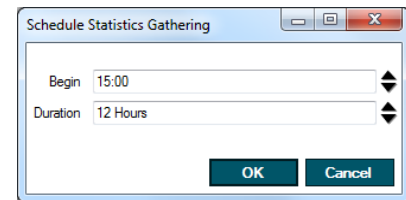

Figure 77 - "Schedule Statistics Gathering" window
**“Schedule” button:** Click this button to schedule a time at which statistics will be gathered. When clicked, a new window will open prompting for a begin time and duration. Refer to Figure 77.